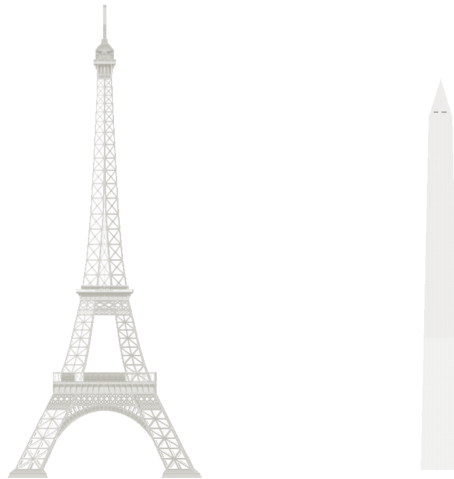

Figure 1 Template for part 4
4. Draw a free body diagram for both complete models using the templates in Figure 1. Include **only** the wind load assigned to your group. To receive full credit, ensure the diagram shows the **scaled** wind load, tension and compression forces, and full height dimensions. Recall that free body diagrams must be in equilibrium. [5]